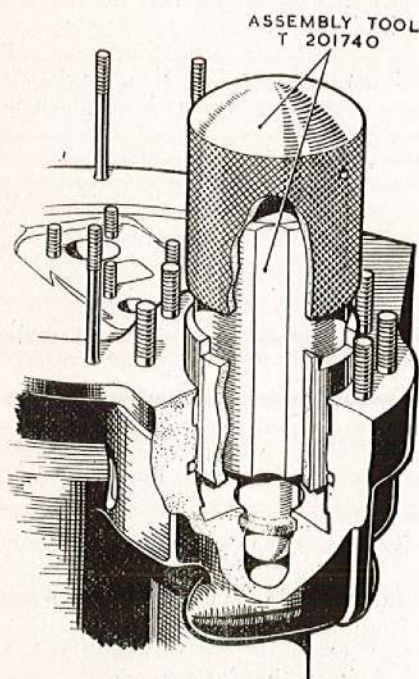

Fig. 20. Fitting the control cylinder liner
99. Before fitting the control cylinder liner, fit the control-rod felt ring, then fit a new sealing ring to the groove mid-way down the large bore. Using the tool T.201740 insert the liner, chamfered end first, as shown in fig. 20.